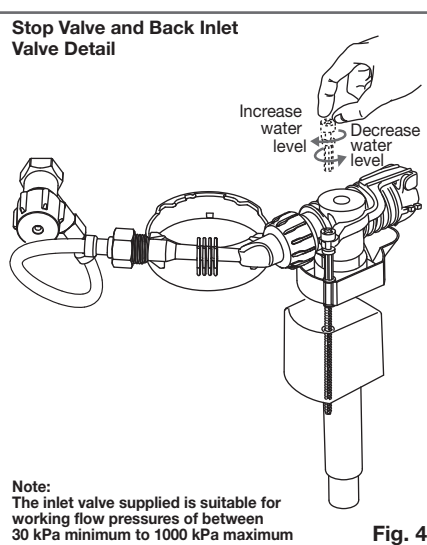

Fig. 4
- 4- Fit cistern stop valve (supplied) to the 1/2" B.S.P. nipple in the wall using approved thread seal, in the downward angled position 45° to the right hand side, as detailed in Fig. 4.
- 7- Adjust water level to water level mark inside the cistern by simply turning the float arm screw in a clockwise or anti-clockwise direction as detailed in Fig. 4.